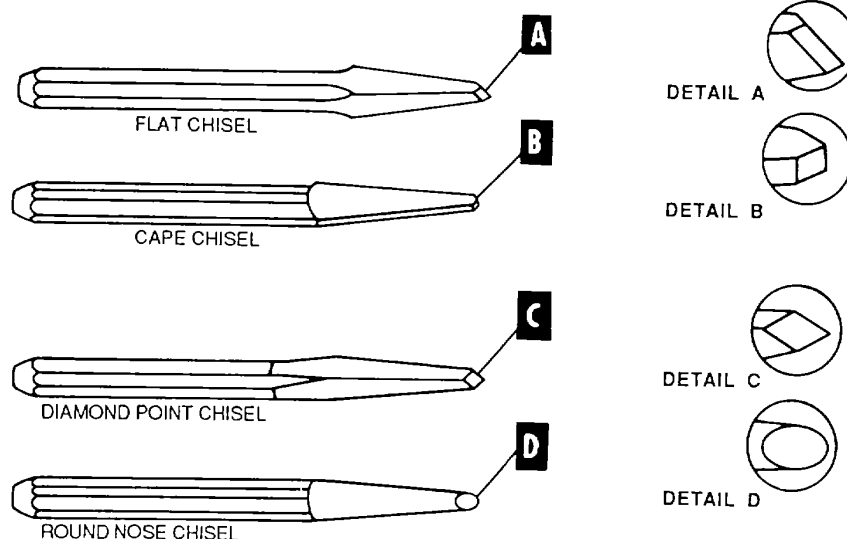

Figure 4-57. Chisels
a. *Types.* The most common types of cold chisel are the flat, cape, roundnose, and diamond types, shown in figure 4-57.